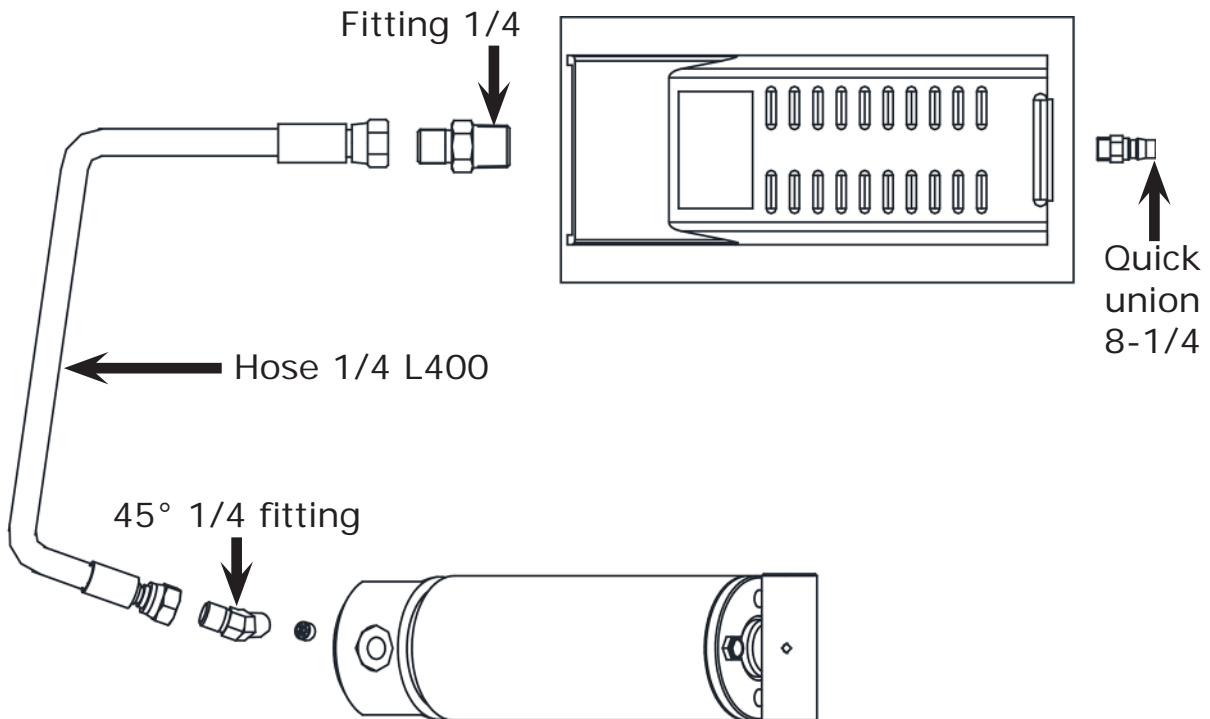

Fig. 5
- Connect the hydraulic hose following the figure 5.